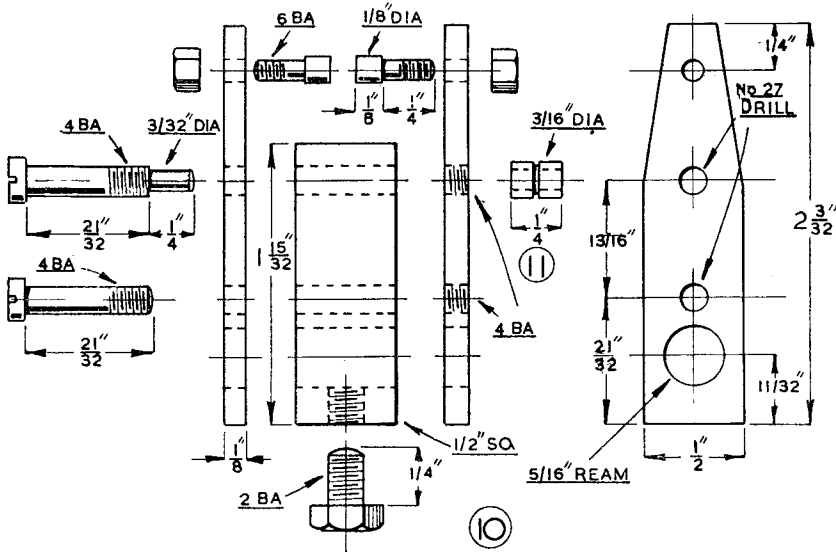
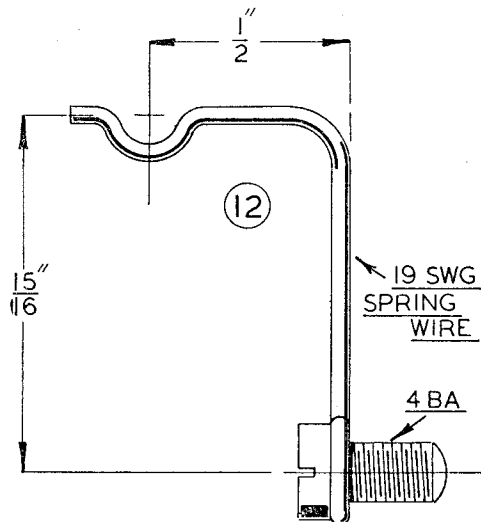

Fig. 7. The gear fork assembly
Fig. 8. The detent spring
To actuate the spindle and so move the change-wheels attached to it, a fork (10), shown in Fig. 7, is secured to the operating shaft. As represented in the drawing, this part is built up, but, if preferred, it can be machined from the solid, although this form of construction makes the
The upper 4-B.A. screw, shown in Fig. 7 and used to secure the parts of the fork together, has an extended tip which serves to carry the grooved roller (11). This roller, which is hardened, rides on the spring (12), Fig. 8, and acts as a spring detent for maintaining the fork in either the backward or the forward position, according to whether the change-wheel is put into mesh or is disengaged.